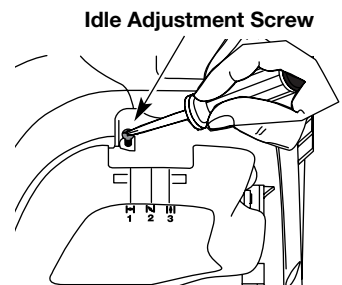

Fig. 32
The idle speed of the engine is adjustable. An idle adjustment screw is between the air filter cover and the engine starter housing (Fig. 32).
2. Move the throttle control to the idle position (👉) and let the engine idle. If the engine stops, insert a small phillips screwdriver in between the Air Filter Cover and the Engine Cover (Fig. 32). Turn the idle speed screw in, clockwise, 1/8 of a turn at a time (as needed) until the engine idles smoothly.